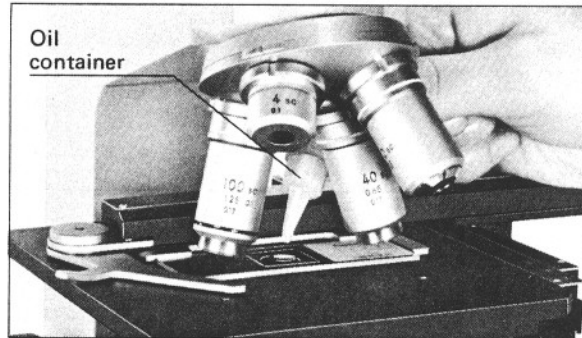

Fig. 22
- 2) Turning the revolving nosepiece, place the 100× objective in a position where it is convenient to apply oil. Then, tilt the oil container, until oil enters the nozzle. Depressing the container, attach an appropriate amount of oil onto the coverglass. (Fig. 22) The oil may take in air bubbles. If any air bubble is seen, clear off the oil using lens tissue, and apply the oil once again.